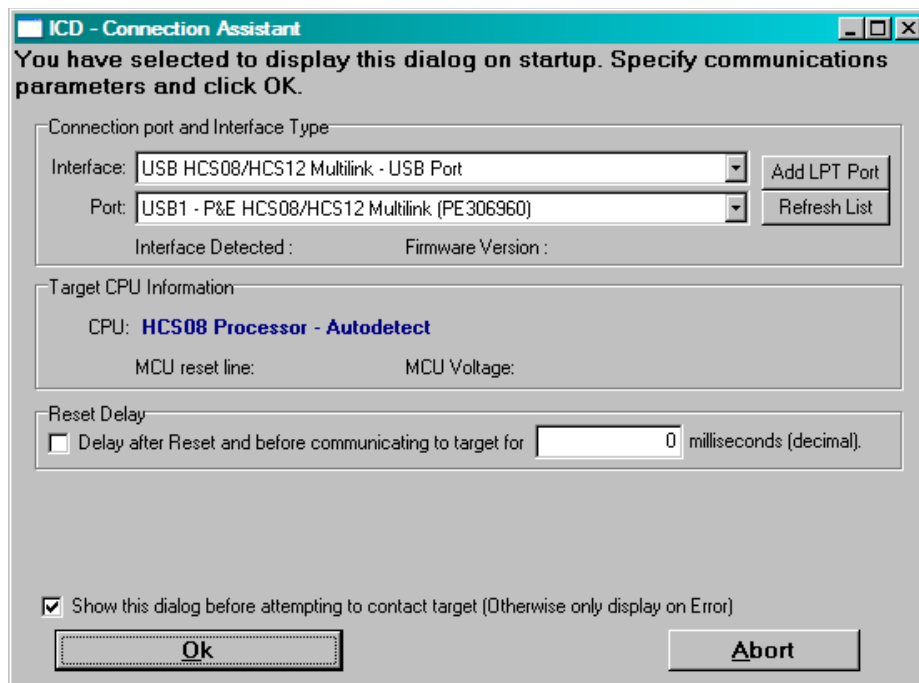

Figure 3-11. Connection Assistant Window
- When connecting for the first time, the Connection Assistant window appears prompting to select the debugger interface connection. As shown in Figure 3-11, a USB connection was chosen and the HCS08 was selected as the CPU type. Click the OK button.